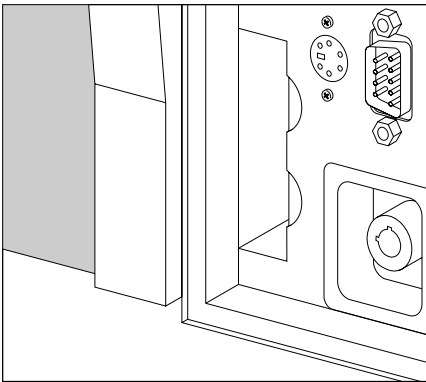

Figure 1
- 1- Open the access door where the vertical keyboard is located (Figure 1)